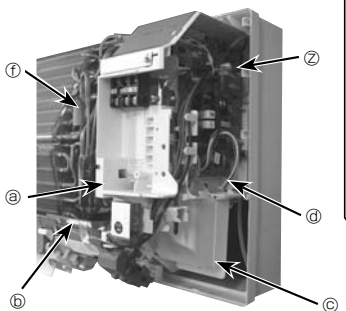

Fig. 6-6
14. Connect the electrical cord of radio frequency interface securely to CN105 (RED) on indoor controller board. (Fig. 6-6)